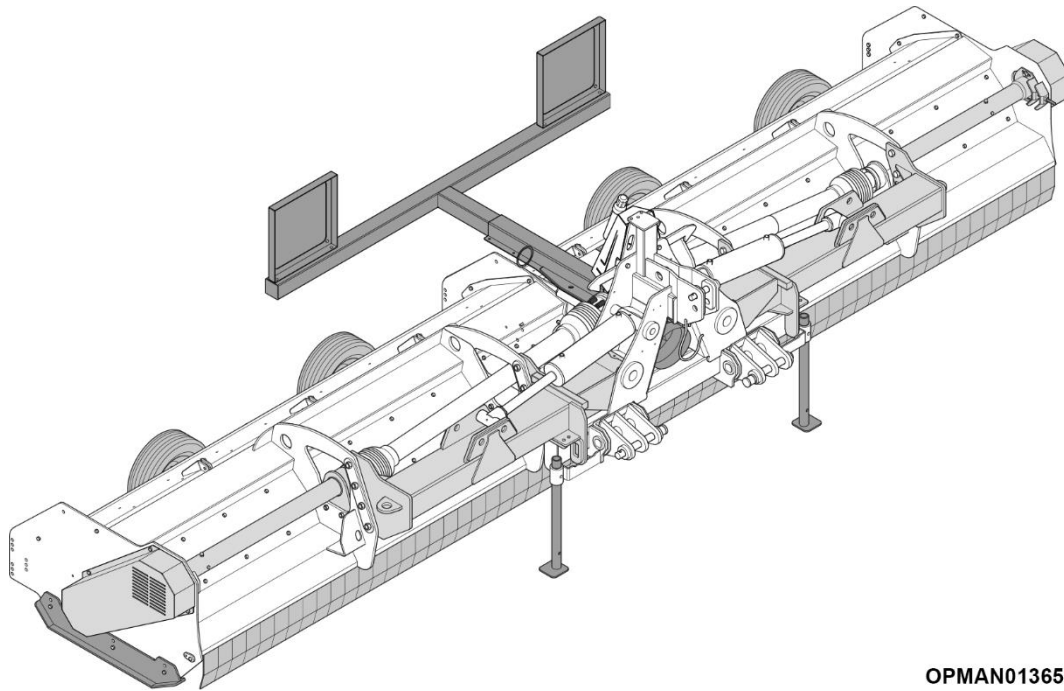

Figure 18
- Use the specific supporting feet in the parking position (Figure 18).